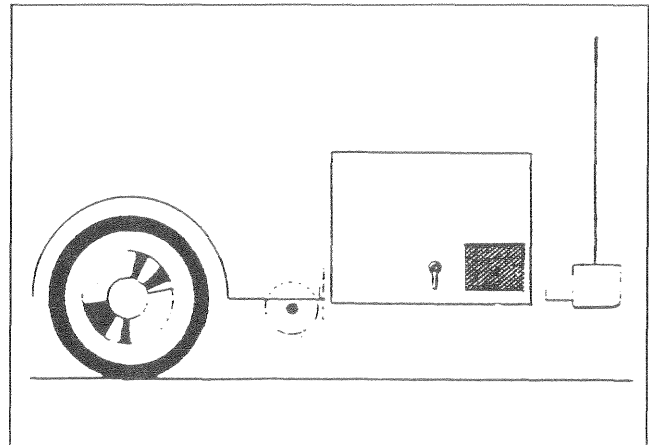

Figure 23 — Suspended Mount: Inlet Door
- Provide a door in the vehicle skirt having an air inlet opening (Figure 23).